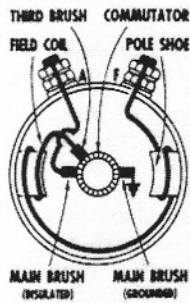
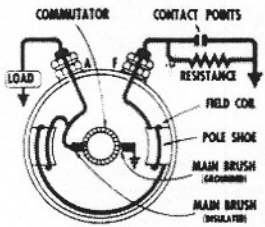
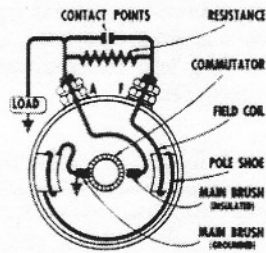

Figure 12
Figure 18—"A" circuit generator.
Figure 19—"B" circuit generator.
The main types of generator circuits are shown in Figures 12 through 17.
The third-brush generator circuit is shown in Figure 12. This type of circuit arrangement provides automatic control of the generator output, thereby eliminating in most cases the need for a voltage regulator control. However, this type of generator is limited to applications requiring lower current outputs.
**"A" Circuit and "B" Circuit**—The generator circuits shown in Figures 12 through 17 can be classified as either "A" circuit or "B" circuit. An "A" circuit generator is shown in Figure 18. In this type circuit, the field winding is connected to the insulated brush inside the generator and is connected to ground through the contact points in the regulator. In the "B" circuit generator (Fig. 19), the field winding is grounded inside the generator, and is connected to the armature circuit inside the regulator.